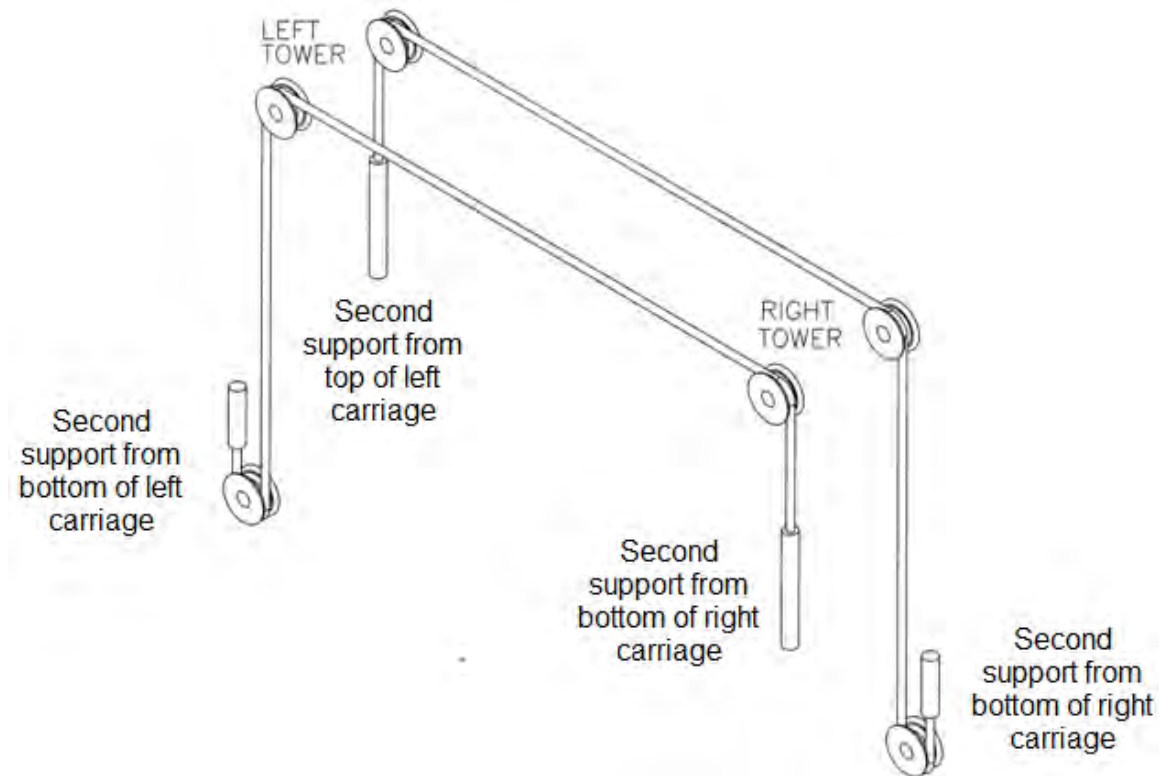

Figure 12: Cable Routing
2. Remove equalizing cables from the accessory kit box, and locate the (8) $\frac{1}{2}$ "-13UNC nuts in the hardware kit box.
3. Equalizing cables are to be routed as shown in **Figure 12**.